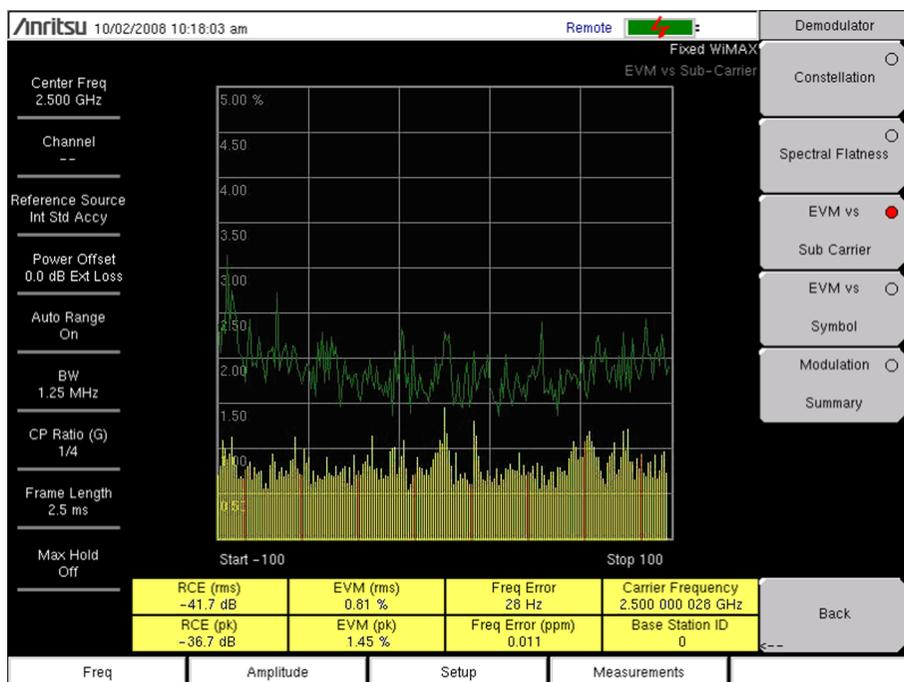

Figure 2-7. EVM Versus SubCarrier
4. Press the EVM vs SubCarrier submenu key to activate the measurement. The sample image in Figure 2-7 may differ from any image on your instrument.